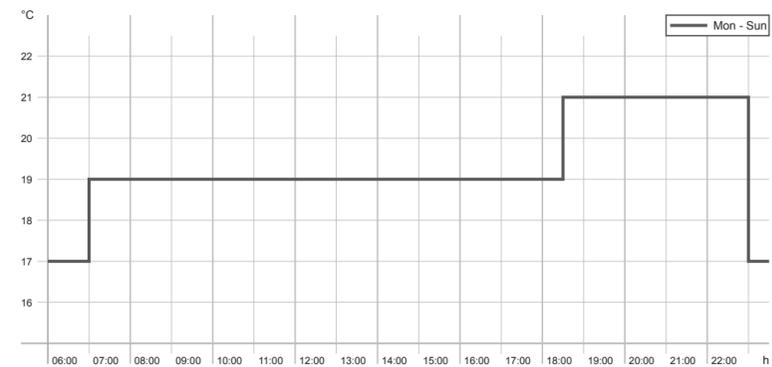

Figure 3: Time-temperature diagram (day profile) for heating programme 3
- Press the **-** or **+** button. Short button-press: Change the set temperature (Figure 3, 15) in steps of 0.1°.